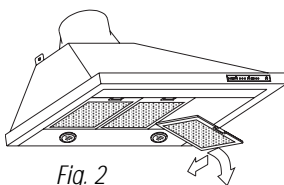

Fig. 2
- Press the handles and remove the filters. Fig. 2.